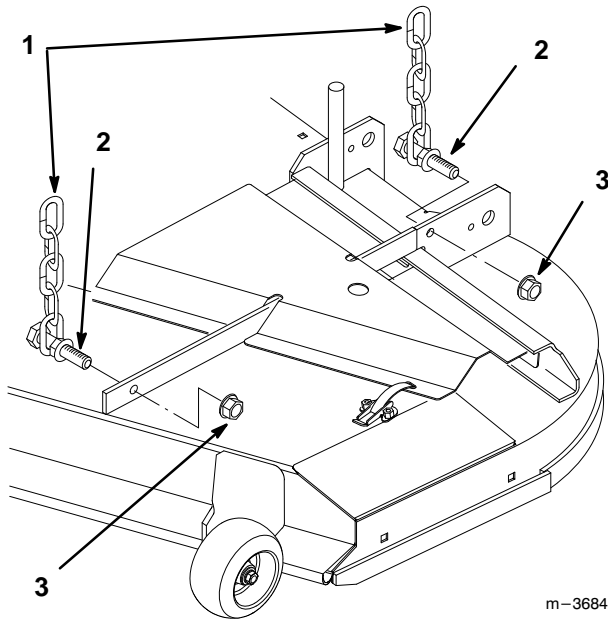

Figure 1
1. Slide mower under traction unit and remove outer flange locknut from bolts, attach to chains hanging from traction unit lift system (Fig. 1).
2. Attach bolts to cross braces of mower with previously removed 7/16" flange locknut on each bolt (Fig. 1). Tighten flange locknuts securely.